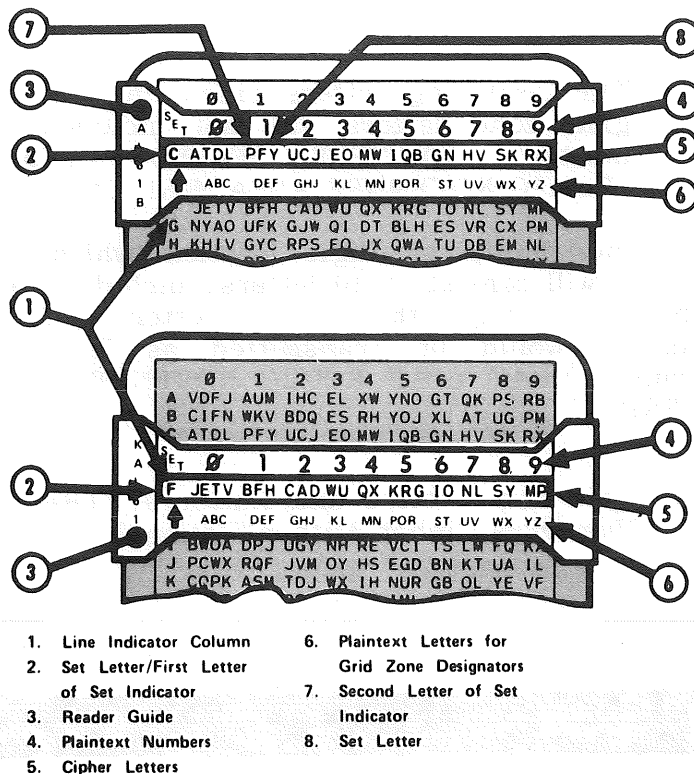

Figure 5. KAL-61B with KTC-1400 Numerical Code.
- (1) The first two letters will be the SET INDICATOR letters. (NEVER TRANSMIT THE SET LETTERS.) EXAMPLE: CP. (This is transmitted as "I SET CHARLIE PAPA.")
- (2) If grid zone letters are included, the third and fourth letters of your transmission will be encrypted grid zone letters. EXAMPLE: XG. (This is transmitted as "XRAY GOLF.")
- (3) The remaining letters (including the third and fourth if grid zone letters are not included) will be encrypted numbers. EXAMPLE: RNAMEUS. (This is transmitted as "ROMEO NOVEMBER ALFA MIKE UNIFORM SIERRA.")
5. Decrypt grid zone letters and numbers. (Refer to fig 5 and CEOI Item for Numerical Cipher Authentication.)
(Refer to fig 5 and CEOI Item